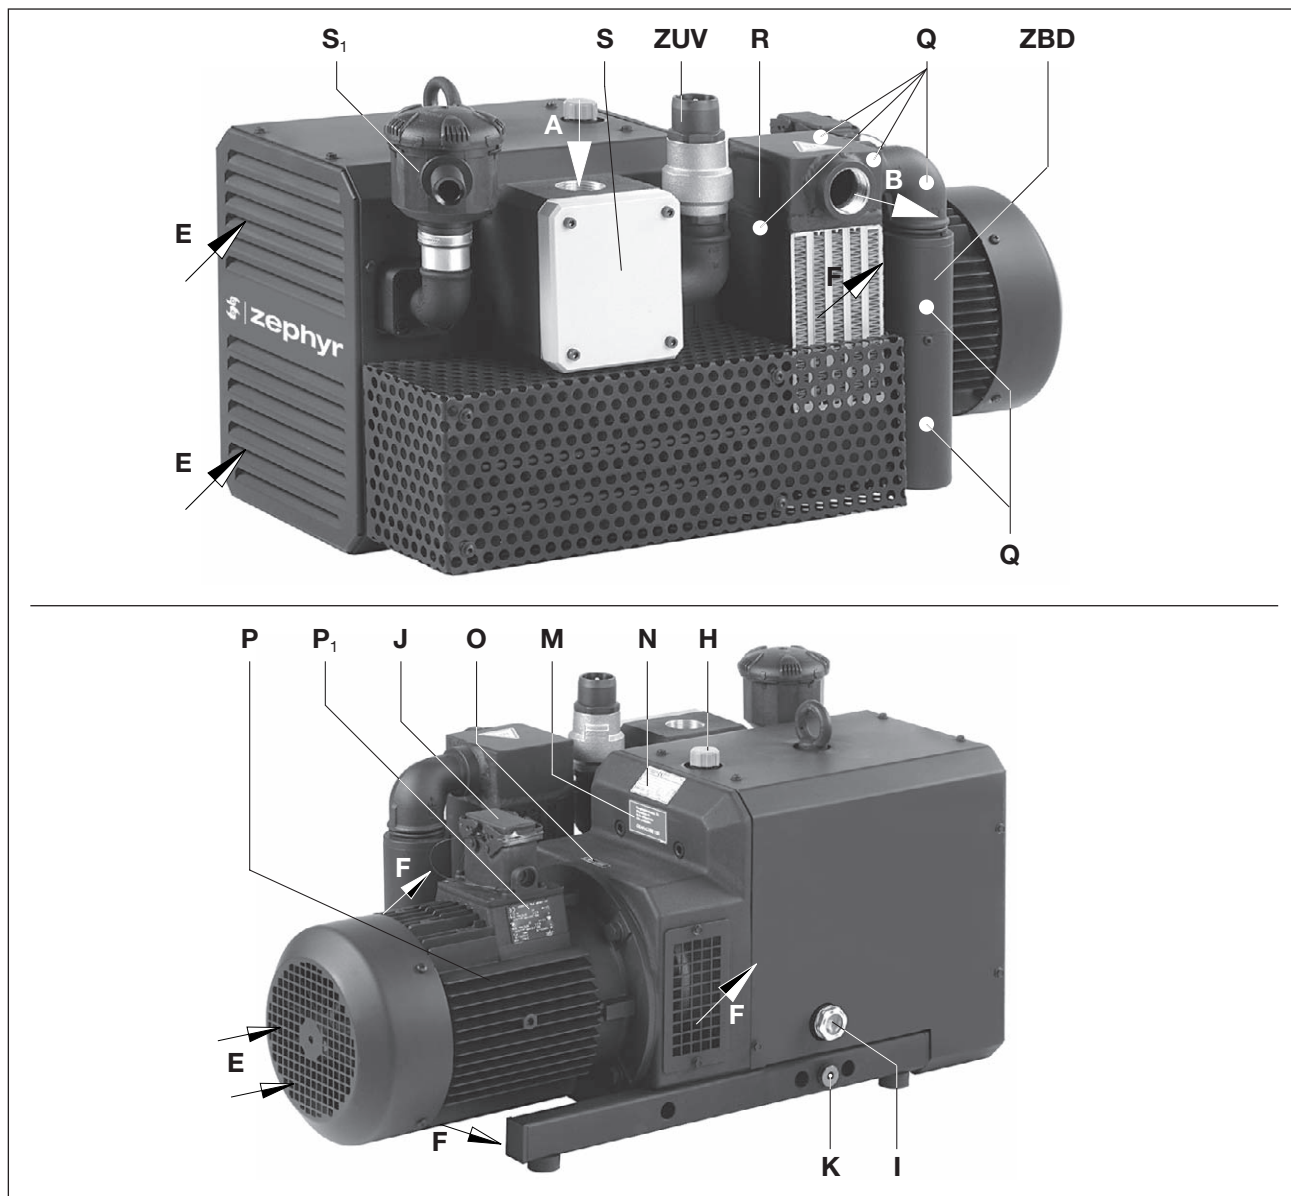

Fig. 2 Pressure vacuum pump C-KLR 80
The ZEPHYR C-KLR is enclosed in an insulation hood. In order to dissipate compression heat, the cooling air is sucked through between the machine and the hood using drum fan that sucks in the fresh cooling air (Fig. 2/E) and discharges the heated air out of the cooling air outlet (Fig. 2/F). The compressed air aftercooler (Fig. 2/R) provides a low blowing air temperature. The ZEPHYR C-KLR is driven by standard flanged three-phase motors via a coupling (with an elastomer component).
Relief valves (Fig. 2/ZUV) and (Fig. 2/ZBD) are installed as standard to protect against overload..
The nominal flow rate is 80 and 140 m3/h at 50 Hz. The load limits (bars) on the intake and pressure sides are specified on the data plate (Fig. 2/N). Data sheet D 883 shows the dependency of the flow rate on the excess pressures.
The oil filling point (Fig. 2/H), oil sight glass (Fig. 2/I) and the oil outlets (Fig. 2/K) must be easily accessible. The cooling air inlets (Fig. 2/E) and the cooling air outlets (Fig. 2/F) must be at least 20 cm away from adjacent walls. Cooling air coming out must not be sucked in again. For maintenance work there must be a minimum of 40 cm in front of the inlet filters (Fig. 2/S, 2/S1).
- a) Vacuum connection at (Fig. 2/A) and pressure connection at (Fig. 2/B).
As a protection against overload safety valves (Fig. 2/ZUV) and (Fig. 2/ZBD) are installed as standard.
- a) Fill the lubricating oil (for suitable types see „Maintenance“) for the gear wheels and bearings at the oil filling point (Fig. 2/H) up to the middle of the sight glass (Fig. 2/I).
- a) The motor's electrical data is given on the data plate (Fig. 2/N) or on the motor data plate (Fig. 2/P1). The motors comply with DIN EN 60034 and are in protection class IP55 and insulation class F. The appropriate connection diagram is located in the motor's terminal box (not for the plug connection version). The motor data must be compared with the data of the existing mains network (current type, voltage, network frequency, permitted current value).
- b) Connect the motor via the plug connection (Fig. 2/J) or a motor protection switch (for safety reasons a motor protection switch is required and cable fitting must be provided to provide strain relief for the connection cable). We recommend using motor protection switches with delayed switch off, depending on possible excess current. Temporary excess current may occur when the machine is started cold.
When the machine is at operating temperature the surface temperatures on the components (Fig. 2/ Q) may go above 70°C.
- ▷ The intended direction of rotation of the drive shaft is shown by the rotary direction arrow (Fig. 2/O) on the motor flange.